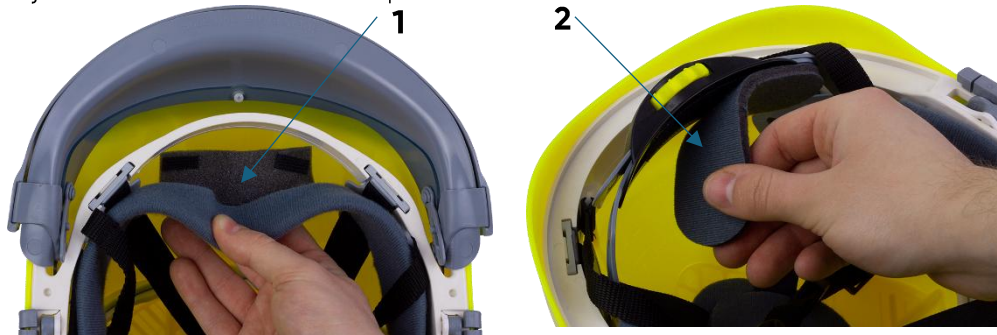

Fig. 6
PoSweatbands (Fig. 6) are attached using hook-and-loop fasteners to the main headband – front sweatband (1) and rear band – rear sweatband (2). To replace the front sweatband, detach the six hook-and-loop fasteners attaching it around the headband one by one. To replace the rear sweatband, grasp it and pull gently to separate it from the head circumference adjuster. Fit new sweatbands in place of worn ones